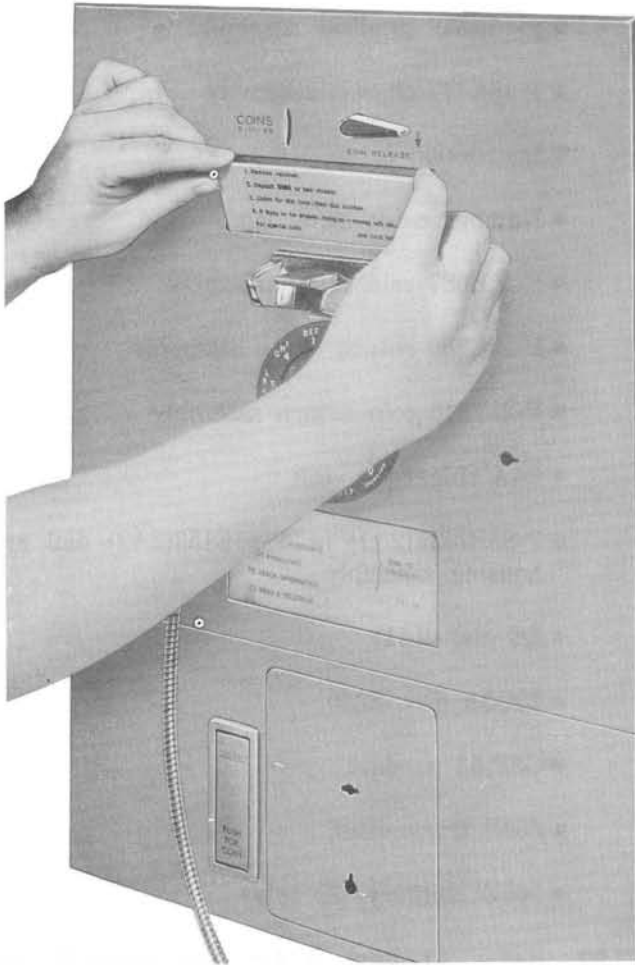

Fig. 8—Installing Instruction Card (Typical)
- (1) Push down with fingers (Fig. 8).
- (2) Snap card in place.
- (3) Ensure that card is seated properly in slot.